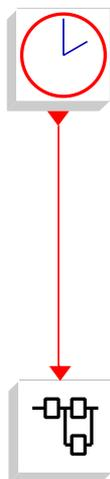

Figure 2: Scicos superblock and clock
- The menu "Diagram" "Region to Super Block" allows to select a part of the block diagram and put it into a "Super Block". Figure 2 represents "clock" and "Super Block".